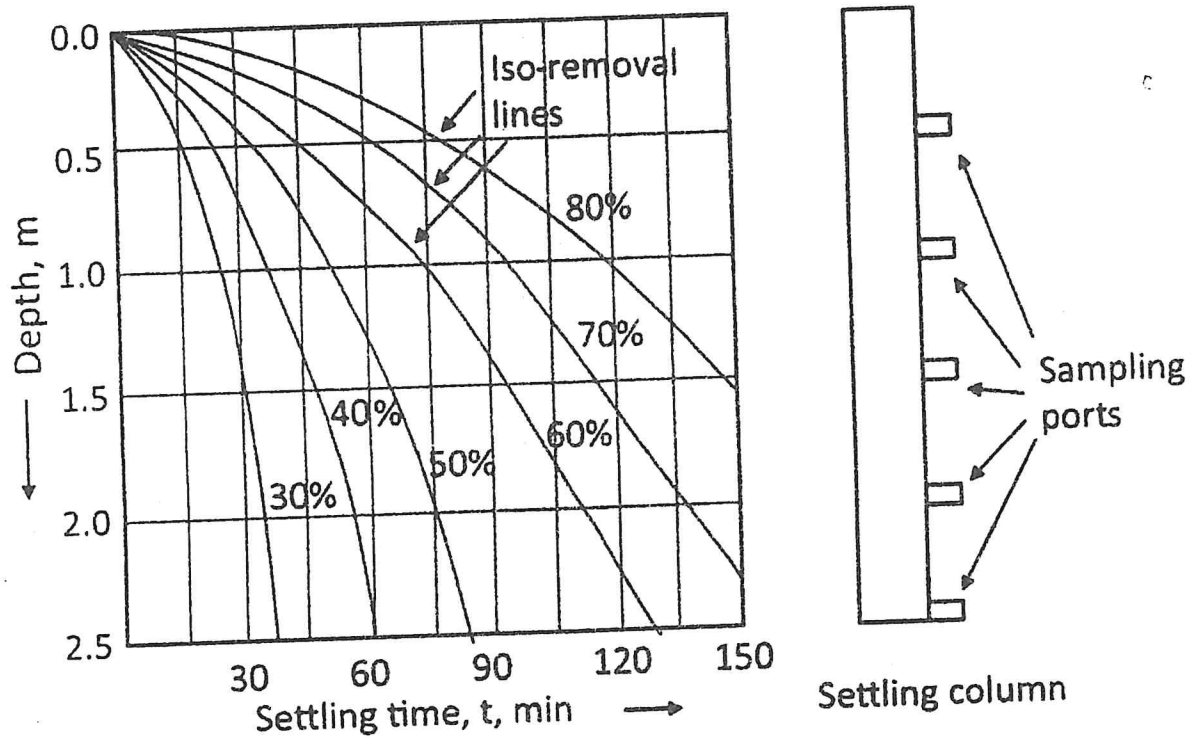

Figure 1: Iso-removal lines for a Type-II settling test using 2.5 m deep column.
5. (a) Explain the 'Sand Cone Method' for determination of field density of soils. (12)
- (b) The soil profile at a site consists of a 7 m thick clay layer ($\gamma_{\text{sat}} = 17 \text{ kN/m}^3$) underlain by a sand layer ($\gamma_{\text{sat}} = 18 \text{ kN/m}^3$). The clay layer extends from the ground surface. If water table is at the ground surface, determine the safe depth of excavation in the clay layer. Water level in the excavation will be maintained at the excavation bottom. (10)
- (c) A 6 m thick stratum of clay is located at a depth of 8 m below the ground surface. For the clay layer: $LL = 45$, $NMC = 40\%$ and $G_s = 2.7$. A sand layer, that extends from the ground surface, exists above this clay stratum. Water table is at a depth of 4 m below the ground surface. For the sand layer: $\gamma = 17 \text{ kN/m}^3$ (above water table) and $\gamma' = 10.5 \text{ kN/m}^3$ (below water table). A $2 \text{ m} \times 3 \text{ m}$ footing, carrying a column load of 250 kN is placed at the top of the clay layer. Schematically show the sub-soil profile at the site and estimate the total primary consolidation settlement of the clay layer. (12)
- (b) Compare the increase in vertical stress with depth below the center of circular, square and strip loads. (6)
- (c) Fig 1 shows a section through a sheet pile wall along with flow net. Analyze and comment on the stability of the wall against heaving and piping failure. (10+8)
Fig.1 for Q.6(c)